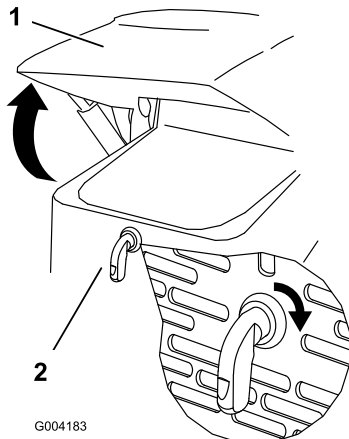

Figure 21
- If your traction unit has a lever style hood latch, turn the hood latch clockwise (Figure 21).